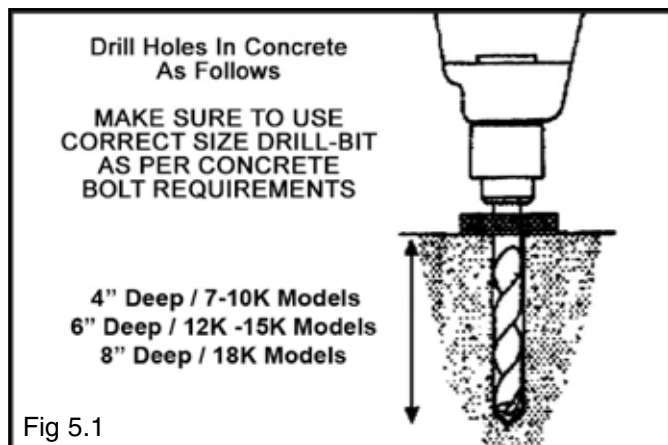

Fig 5.1
2. Using the base plate on the POWER SIDE post as a guide, drill each anchor hole in the concrete approximately 4" deep using a rotary hammer drill and 3/4" concrete drill-bit. To ensure full holding power, do not ream the hole or allow the drill to wobble. (See Fig. 5.1)